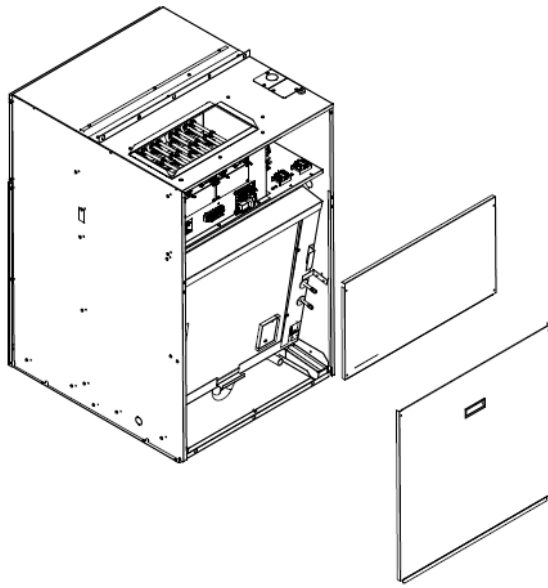

FIGURE 31 – Removal of Front Panels
- 2) Remove screws (4) from front top panel and screws (2) from filter access panel. Remove both panels from unit. Refer to **Figure 31 – Removal of Front Panels**.